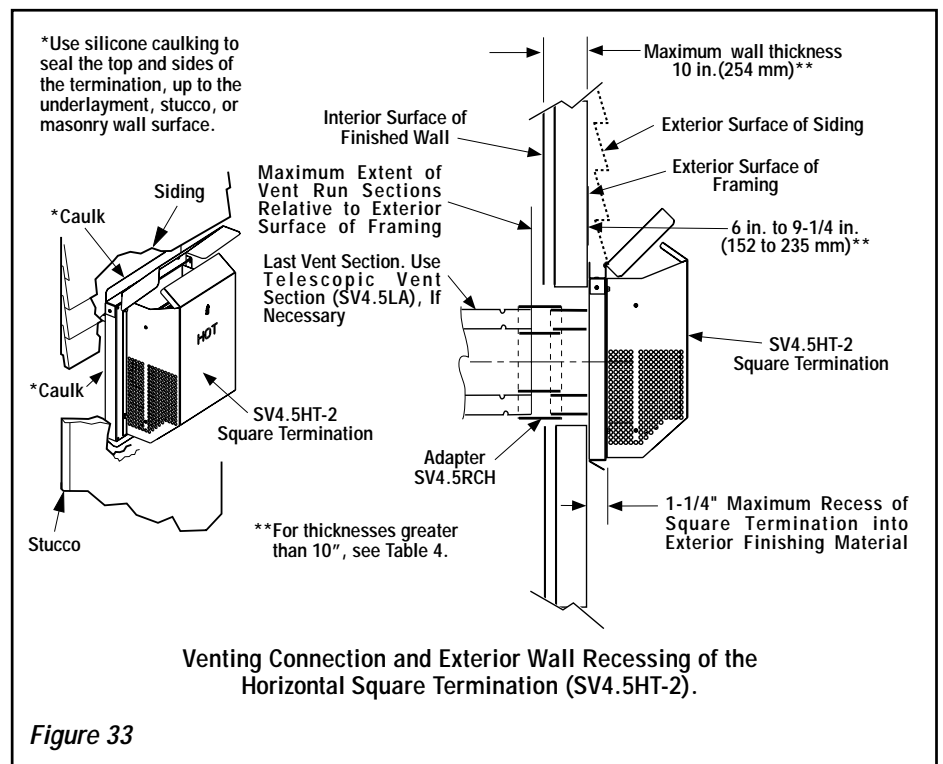

Figure 33
J. Assemble vent run to exterior wall - If not previously measured, locate the center of the vent at the exterior wall. Prepare an opening as described in **Step B**. Assemble the vent system to point where the terminus of the last section is located relative to the exterior surface to which the termination is to be attached as shown in **Figure 33 and Table 4 on page 18**.
1. Install the square termination (SV4.5HT-2) - For the last step, from outside the exterior wall, slide the collars of the termination onto the adapter (the outer over the outer and the inner inside the inner) until the termination seats against the exterior wall surface to which it will be attached. Orient the housing of the termination with the arrow pointed upwards. Secure the termination to the exterior wall. **The horizontal termination must not be recessed into the exterior wall or siding** by more than the 1-1/4" (32 mm) as shown in **Figure 33**.
Note: See Figure 33 for wall thickness range reductions when using SV4.5HT-2.